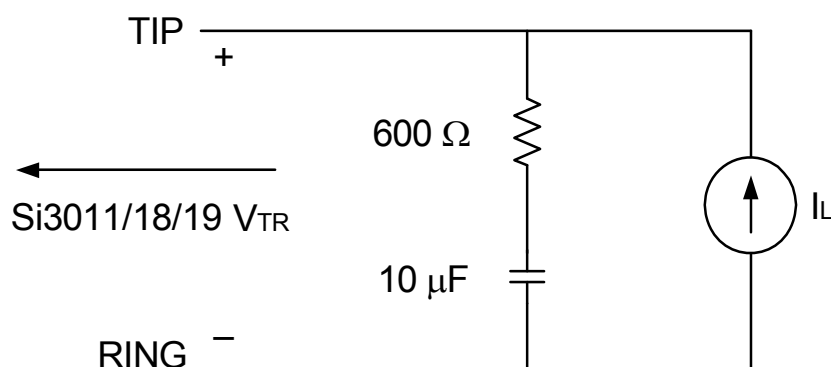

Figure 1. Test Circuit for Loop Characteristics
($V_D = 3.0$ to 3.6 V, $T_A = 0$ to 70 °C, see Figure 1 on page 6)
1. Measured at TIP and RING with $600\ \Omega$ termination at 1 kHz, as shown in Figure 1 on page 6.